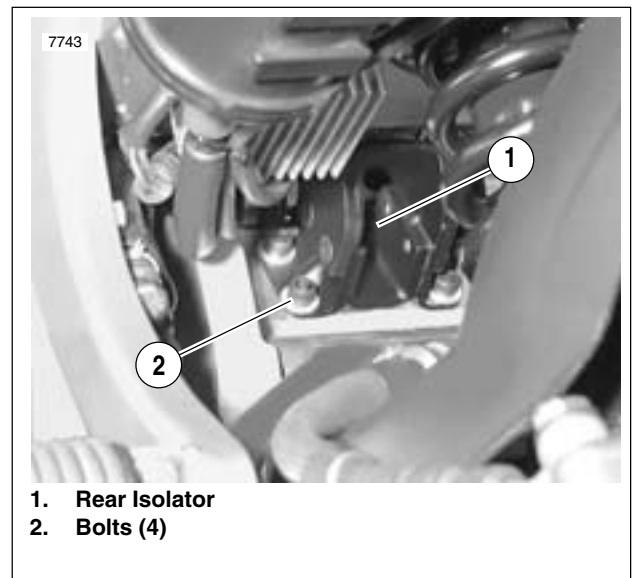

Figure 2-115. Rear Engine Mount Isolator
7. See Figure 2-115. Remove four bolts (2) connecting isolator (1) to engine.